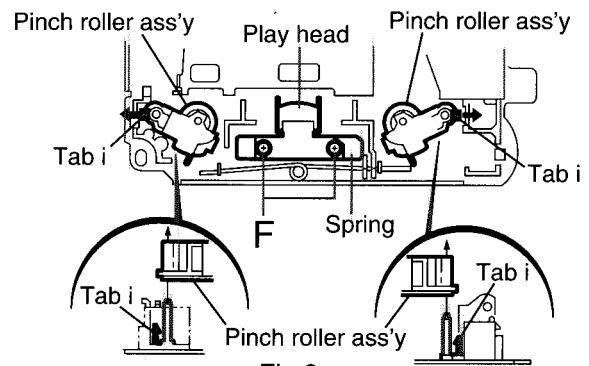

Fig.9
**■ Removing the LCD & key control board** (See Fig.9 and 10)
### ■ Removing the play head (See Fig.9)
### ■ Removing the pinch roller ass'y (See Fig.9)